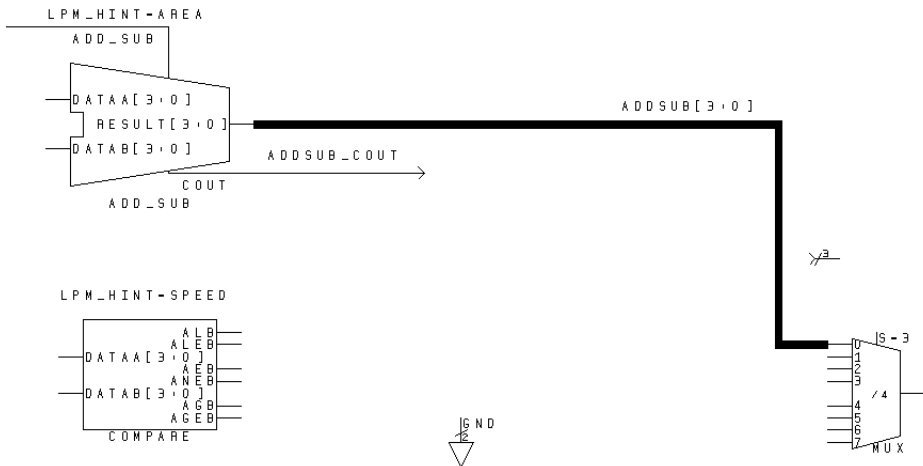

Figure 3-52 Connecting the mux to the comparator
- => Since you're using 4-bit buses, you'll need to use two bus connections in order to have all six of the comparator outputs available for selection by the mux. Beginning at input 1 of the mux, draw a bus in an L shape (see the zoomed-in view of the schematic in Figure 3-52) and terminate it at an end point by pressing the middle mouse button and then the right mouse button, or by pressing “F3” and then the right mouse button. Repeat this free-floating connection beginning at input 2 of the mux and ending, in an L shape, near the comparators' outputs. Click on a blank area of the schematic to deselect everything already selected. You again need to label the two buses you just drew. Clicking on a piece of the bus connected to mux input 1, press “1” on the keyboard, or choose *Label* from the *Add* pull-down menu, and type in `magb[3:0]`. Again, click on a blank area of the schematic to deselect everything already selected. Clicking on a piece of the bus connected to mux input 2, press “1” on the keyboard, or choose *Label* from the *Add* pull-down menu, and type in `maga[3:0]`.